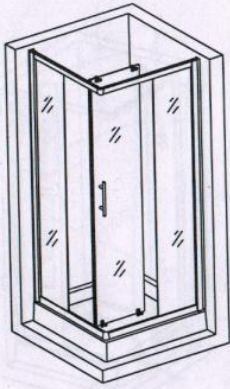

fig 13
12. Refer to diagram (from Fig 13 to 15) how to install **Glass doors (3)** to the **guide rail(1)**.